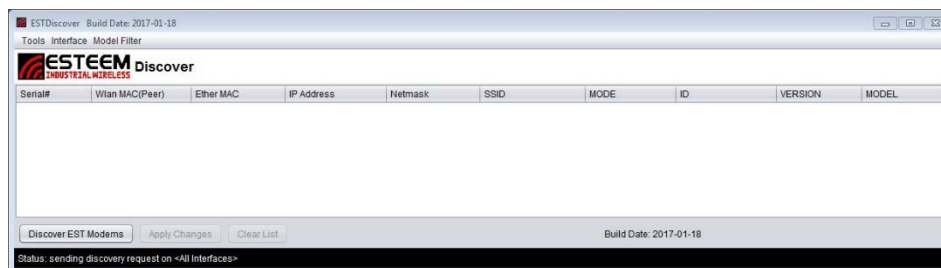

Figure 2: ESTeem Discovery Utility
2. Once both the above programs have been installed, save the ESTeem.exe file to any location on your computer such as the Desktop. Double click the ESTeem.exe program and Figure 2 will be displayed.